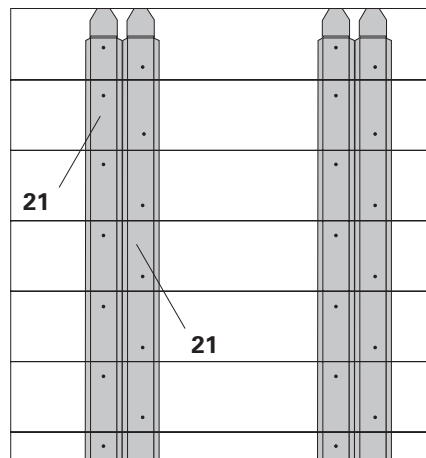

Fig. B2.03
The platform decking is placed directly on the Formwork Girders GT 24 (21) and bolted to each formwork girder. (Fig. B2.03)